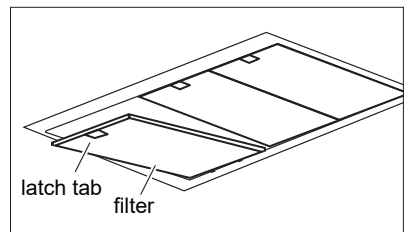

Fig 8
1. Install the grease filters back to the range hood to finish the installation. (Fig 8)